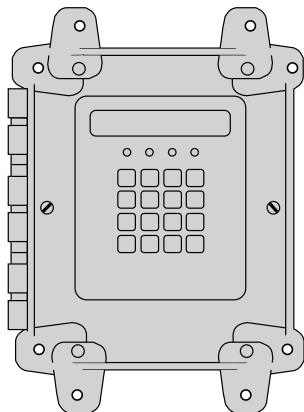

Figure 3
4. Mount the enclosure to a wall or flat surface using the appropriate screws or bolts. The mounting tabs on the back of the enclosure can be rotated to the sides, or top and bottom to facilitate mounting. Refer to Figure 3.